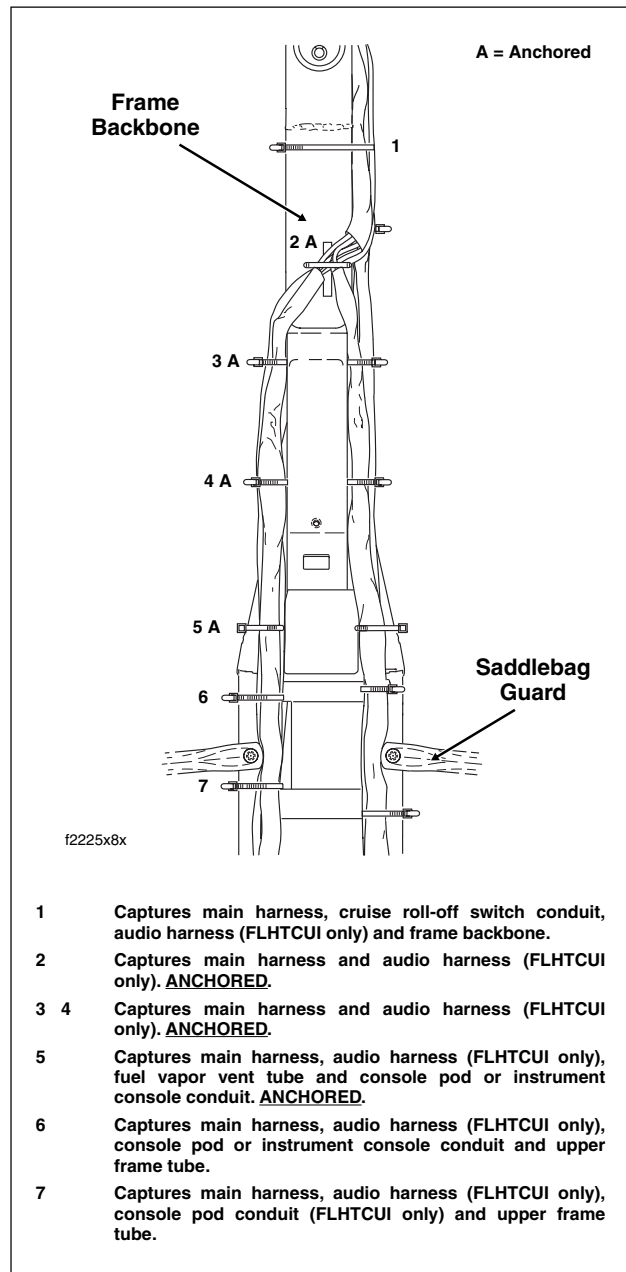

Figure 8-172. Install Cable Straps
7. Carefully cut cable straps securing main harness to frame backbone and left frame tube. See Figure 8-172.